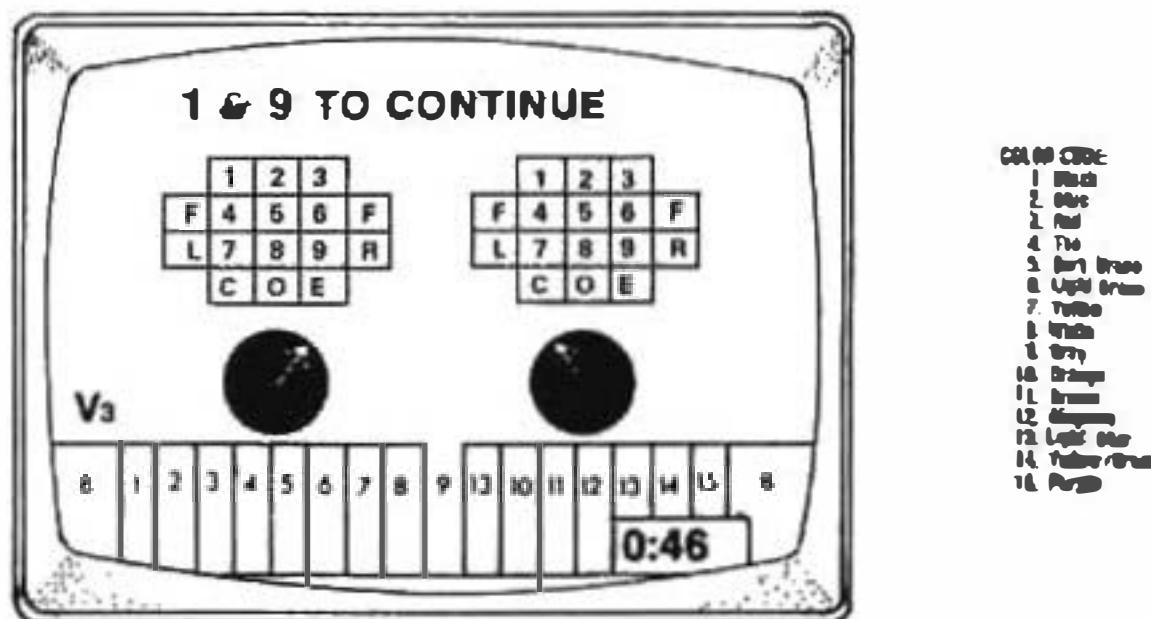

Figure 2-1 Hand Controller Test Pattern
(1) At the completion of the above test sequence, the Hand Controller test display will appear as shown in Figure 2-1.
(e.) Check the row of colored boxes for similarity as listed in Figure 2-1.